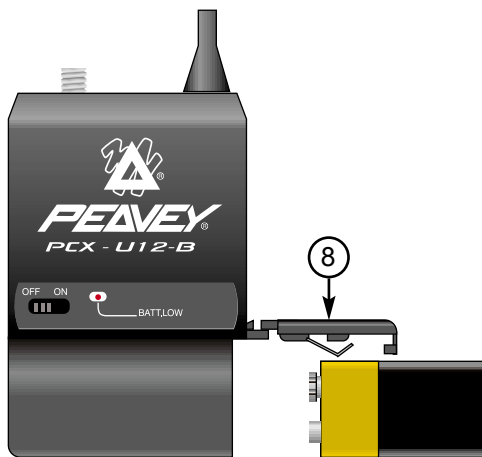

Figure 14
8. **Battery Compartment and Cover:** Accommodates one 9V battery. (Figure 14)
2. Insert a 9V battery into the battery compartment according to the correct polarity as shown in Figure 14. Then push up on the battery cover to close the battery compartment.